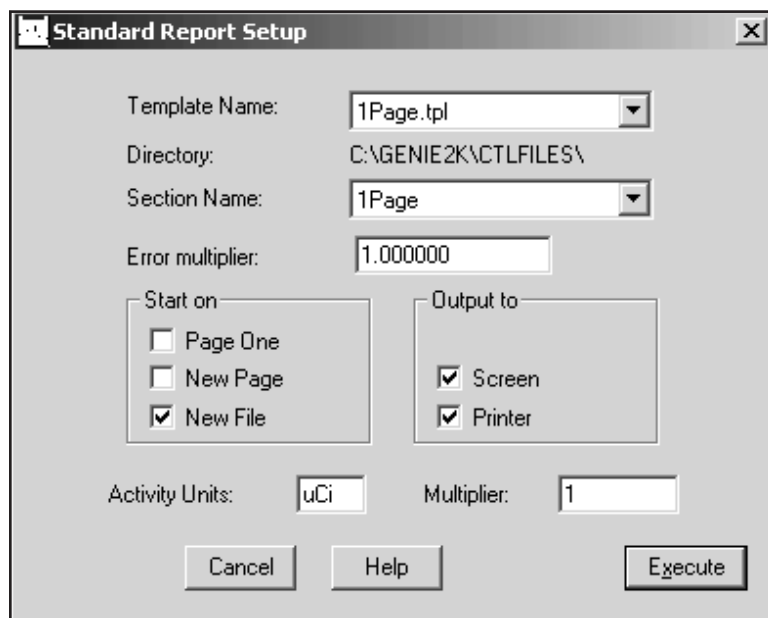

Figure 43 Selecting the Report's Parameters
- Now select **Analyze | Reporting | Standard** to open the Standard Report Setup dialog (Figure 43) and select the parameters for generating the report.
Click the **Execute** button to generate the report. An example of a report created by the 1page.tpl Template you chose in Figure 43 is shown on page 57.